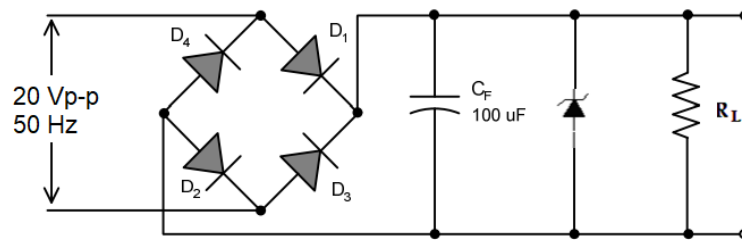

Figure 10: Bridge Rectifier with Zener regulator
1. Connect the circuit as shown in Figure 10 without load resistor.